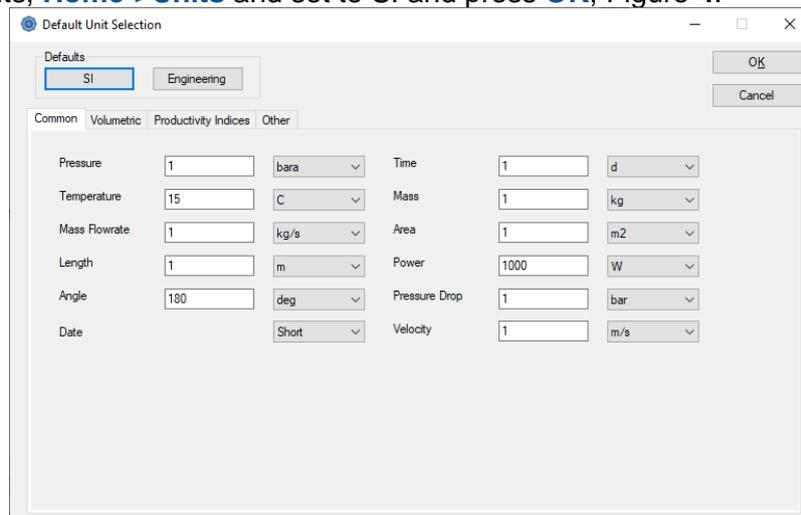

Figure 4: Units set.
- Set the units to be used for data entry. Although an overall unit set is defined each value can be entered in any units by using the local unit definition. For this example, we will set up in SI units, **Home->Units** and set to SI and press **OK**, Figure 4.